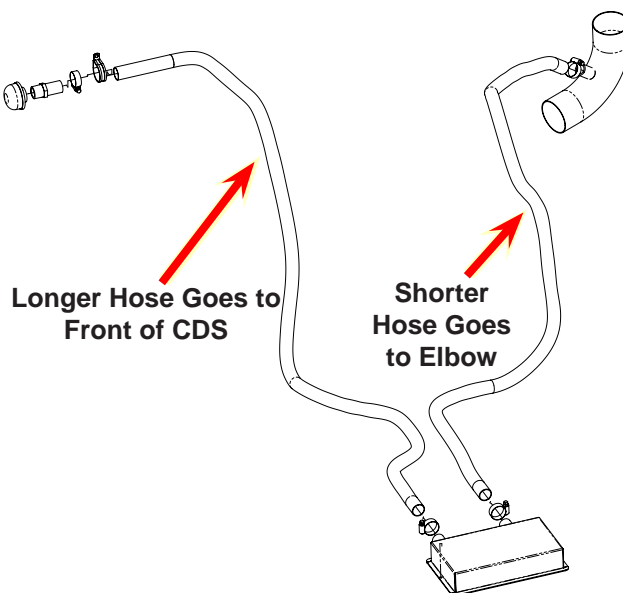

Figure 9. Route and Connect 2 Hoses
11. Connect the two 1" flex hoses to the new cover over the yaw sensor. Use the provided size #12 hose clamps (P/N 000-033-029) to secure the hoses (see Figure 9).
side cargo door (see Figure 9). The shorter gray vacuum hose (P/N 000-068-829) will run from the yaw sensor cover (driver's side) to the Recovery Tank elbow joining the Recovery Tank to the Blower (refer to page 37).
The final assembly will have a 1" diameter hose attached to the Blower elbow and a 1" diameter hose routed toward the front of the CDS instrument panel (see Figure 9).